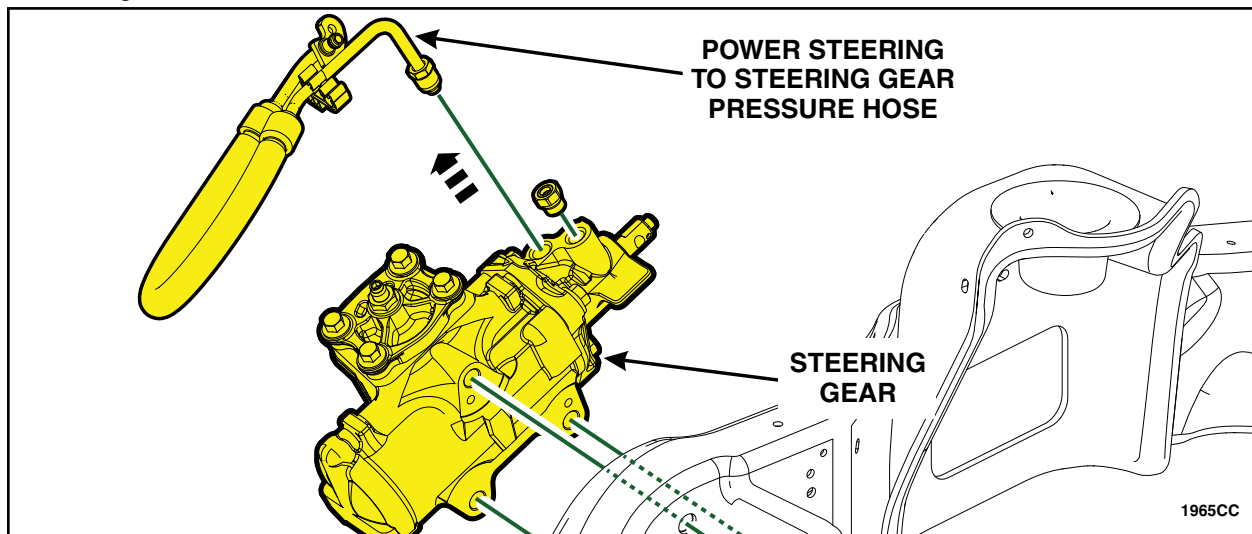

FIGURE 35
4. Remove the hose fitting from the power steering gear and disconnect the steering gear pressure hose. See Figure 35.